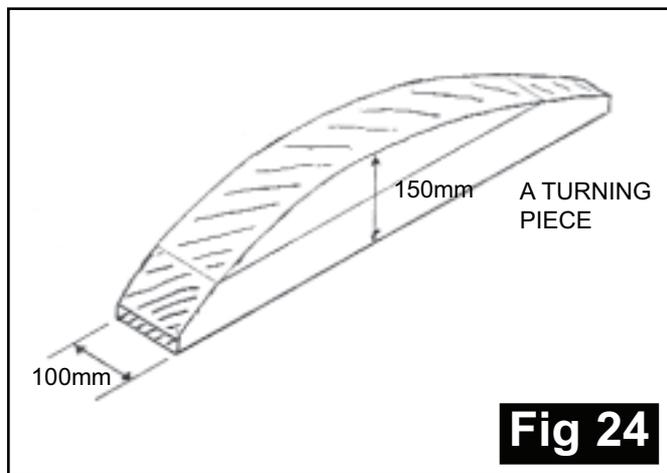

Fig 24
77. 1. A turning piece is cut from two pieces of wood into the shape of the arch, this type of support is normally only used for segmental arches which only have a small span and rise, *fig 24*.